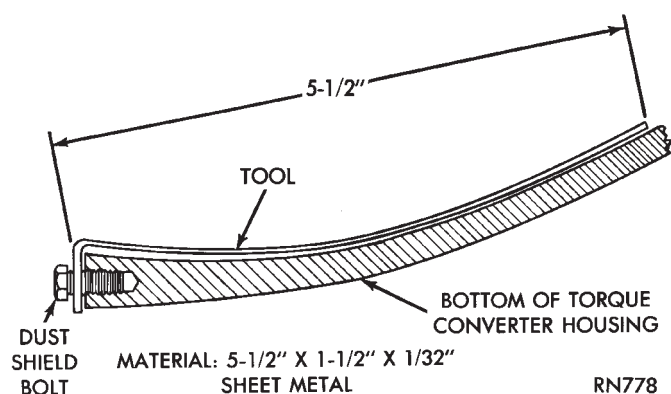
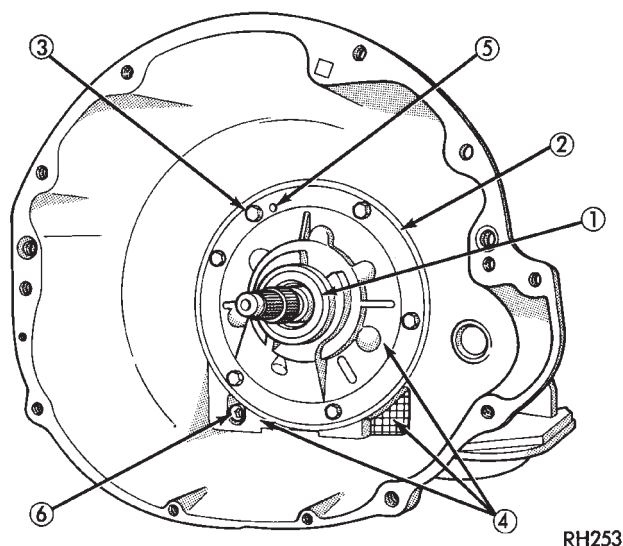

Fig. 7 Converter Housing Leak Test Probe
Fig. 8 Pump Area Inspection Points
(1) Raise rear of vehicle and allow accumulated fluid to drain out of converter housing.
(2) Check and adjust transmission fluid level.
(3) Raise vehicle. Remove converter housing dust cover and wipe as much fluid as possible from converter housing.
(4) Fabricate test probe (Fig. 7). Attach probe to converter housing with a dust shield bolt.
(5) Have a helper run engine at 2500 rpm (with transmission in Neutral) for two minutes; then stop engine.
(6) Inspect test probe and converter housing. If a leak is evident, note color of fluid. Transmission fluid is red. Engine oil ranges in color from brown to green, or to black when oil is dirty.
(7) If probe upper surface is wet with fluid, converter and seal are not at fault. A path of fluid across probe upper surface indicates a converter or seal leak. Fluid leaking **under** the probe is coming from pump housing area (Fig. 8).
(8) Fluid leaking under the probe could be from: pump seal and/or bushing, pump vent, kickdown lever shaft access plug, pump bolts, or porous spots in pump body or transmission case (Fig. 8).
(9) If porous spots in the transmission case or pump body are the suspected leak source, pressurize transmission as described in Leak Testing With Air Pressure.